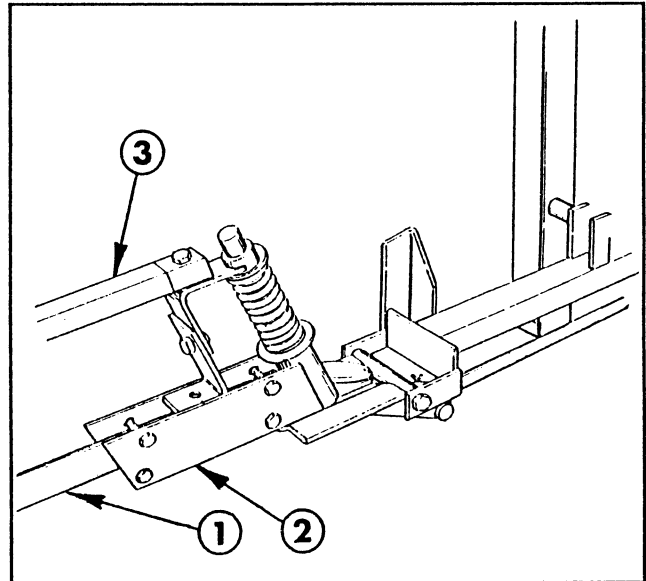

FIG. 13
49. Insert the plugged end of an extension boom pipe into the pivot assembly and secure with (4) 1/4" x 1-1/4" hex head cap screws and lock nuts. Repeat on the opposite side to assemble the other extension boom (FIG. 13).
50. Attach the boom support assembly to the pivot assembly, using a 5/16"x 1-1/2" screw and locknut (FIG. 13).